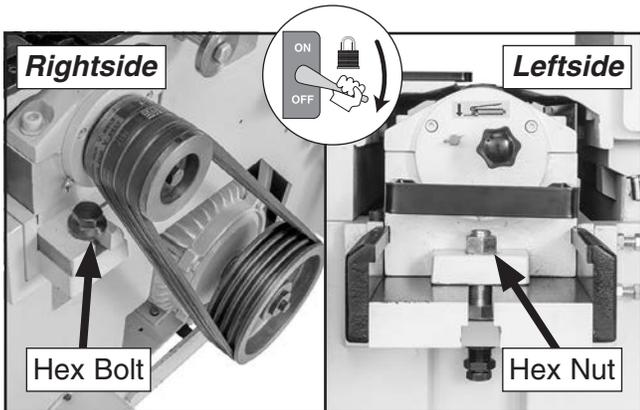

Figure 95. Location of lower cutterhead hex bolt and hex nut.
4. Loosen hex bolt and hex nut (see **Figure 95**) that secure lower cutterhead to carriage.